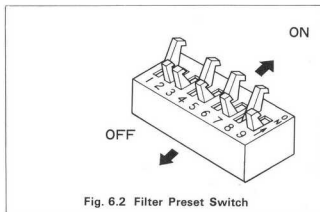

Fig. 6.2 Filter Preset Switch
6.2 FILTER PRESET SWITCHING IF-A (FIG. 6-2)